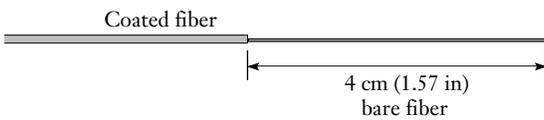

Figure 2
4.4 Strip at least 4 cm (1.57 in) of coating from the fiber according to its manufacturer's instructions (Figure 2).